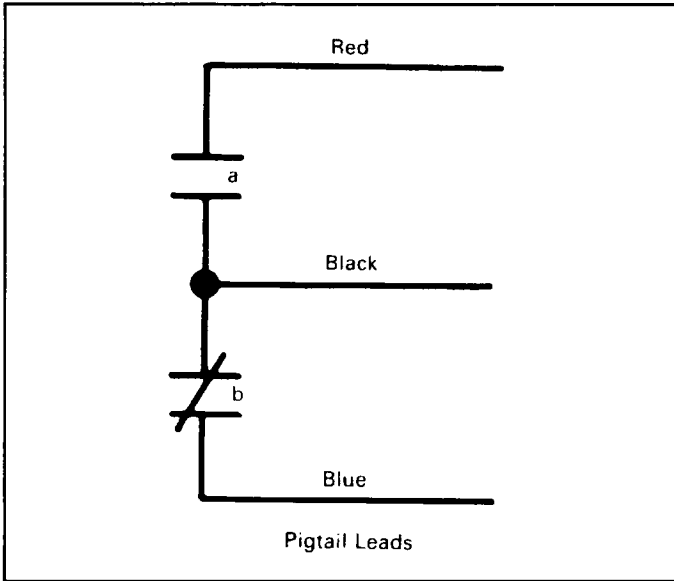

Fig. 2-5 Auxiliary Switch Connection Diagram
Note: The number of auxiliary switches provided and/or wired is specified in the customers order. For typical color coded wiring, see Fig. 2-5.
Note: Label on circuit breaker shows connection diagram for auxiliary switch contacts. Pigtail leads are color coded red, black, and blue. (See Fig 2-5.)
- 2-11. Connect auxiliary switch as required (see Fig. 2-5).
Note: Fig. 2-5 shows one SPDT auxiliary switch with one "a" contact and one "b" contact. Quantity/type of leads and contacts supplied will depend on style of switch specified, refer to TD 29-120.